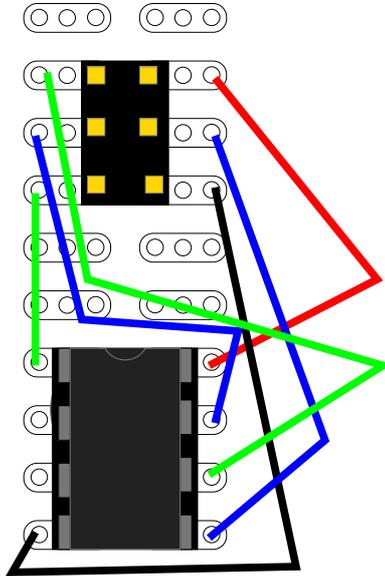

Figure 3: Setup for flashing ATTINY45 with USB-tiny-ISP
2. You'll need to set wire up an adapter so the pins from the programmer go to the right pins of the ATTINY45. The one I made used some existing perf board I had, and can be seen in Figure 3